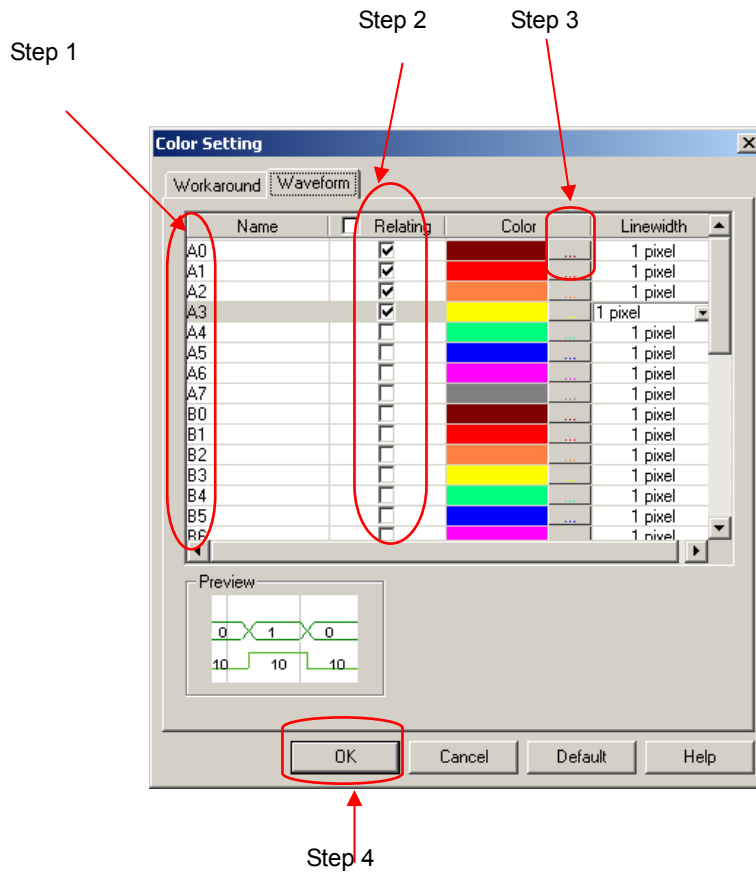

Fig 3-153: Stepwise Illustration of Changing **Waveform** Colors
Foreground color refers to the color of the output signal lines in the Waveform Display Area. *Fig3-153* presents how to change colors of a signal or some signals. Repeat the following procedures if users need to change colors of many signals.
Step 3: Choose a color by following the method shown in Fig 3-153.